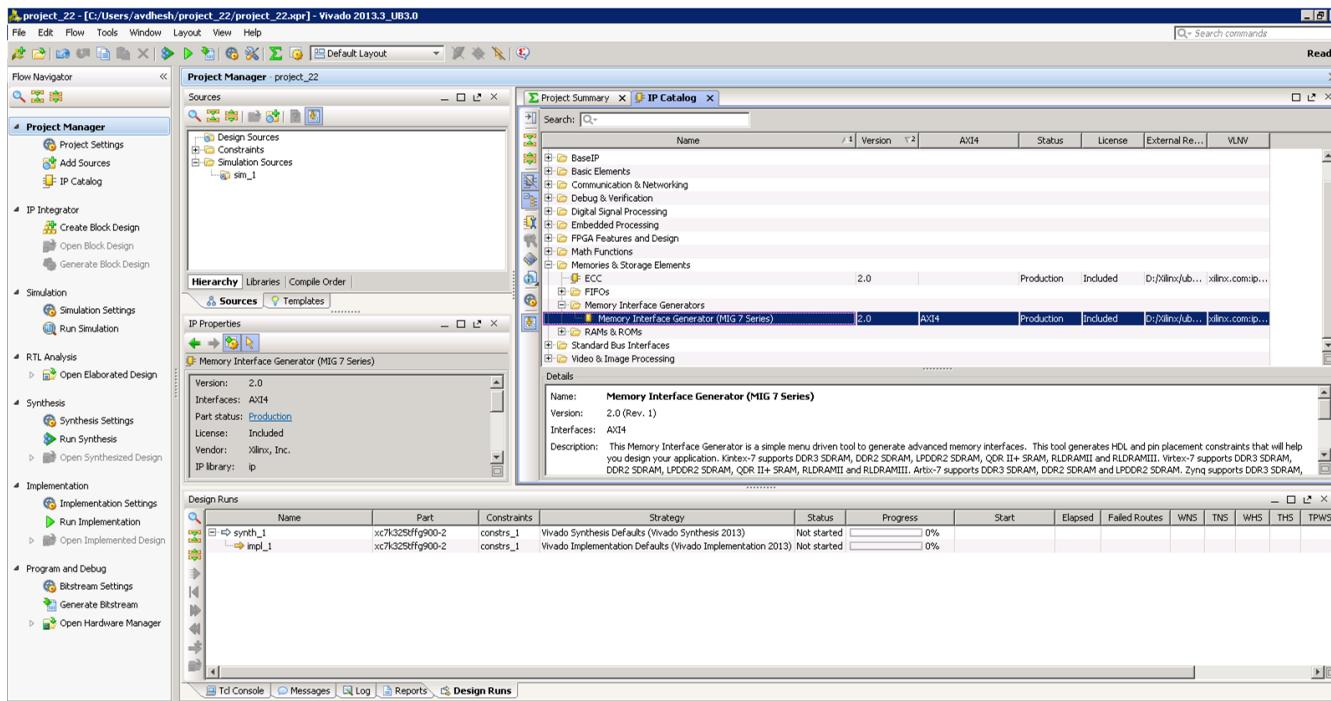

Figure 2-12: IP Catalog Window – Memory Interface Generator
11. Click **IP Catalog** on the **Project Manager** window to open the Vivado IP catalog window. The IP catalog window appears on the right side panel (see Figure 2-12, highlighted in a red circle).
12. The MIG tool exists in the **Memories & Storage Elements > Memory Interface Generators** section of the IP catalog window (Figure 2-12) or you can search from the Search tool bar for the string “MIG.”